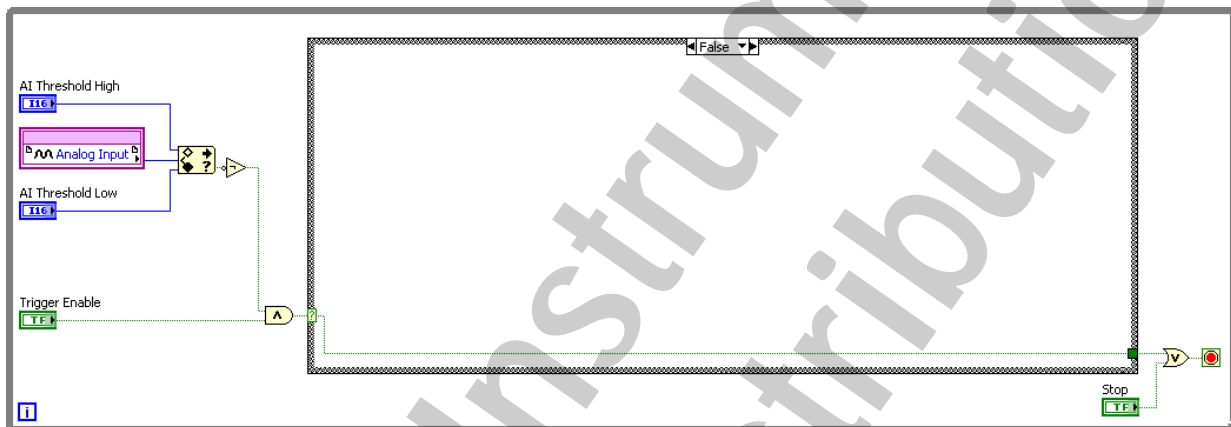

Figure 9-5. Custom Trigger AI.vi Block Diagram (False Case)
6. Select the False case of the Case Structure. Wire the diagram as shown in Figure 9-5.